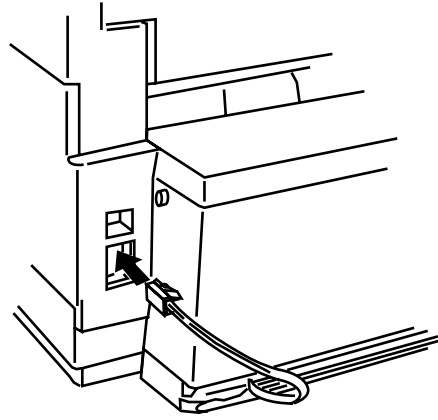

Figure 2.22
- (7) Connect the terminal on the other side of the connection cable formed on the rear side of the equipment (TEL1), like Figure 2.22, to the telephone set.